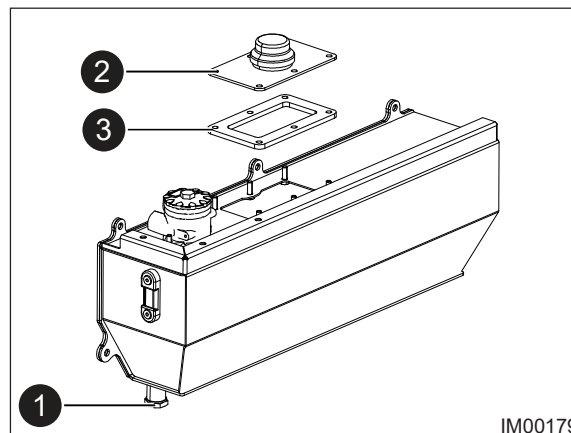

Fig: 11.39 - Oil Drain Plug
4. Place a suitable container (capable of holding 70 L / 18.5 US Gal) beneath the Oil Drain Plug (Fig: 11.39).
5. Remove the inspection Cover along with Filler Cap (Item 2, Fig: 11.39).
6. Inspect the Gasket Seal (Item 3, Fig: 11.39) and replace if necessary.
7. Carefully remove the Drain Plug (Item 1, Fig: 11.39) and allow the oil to drain to the container. Replace the drain plug seal.
10. Reinstall the Drain Plug (Item 1, Fig: 11.39).
11. Install the Gasket (Item 2, Fig: 11.39).
12. Install the Inspection Cover along with Filler Cap (Item 1, Fig: 11.39).